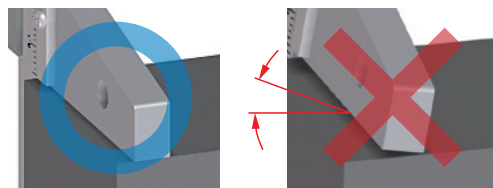

Fig. 5
1. Perform measurement while the reference surface is fully in contact with the workpiece to avoid cosine error. (Fig. 5)